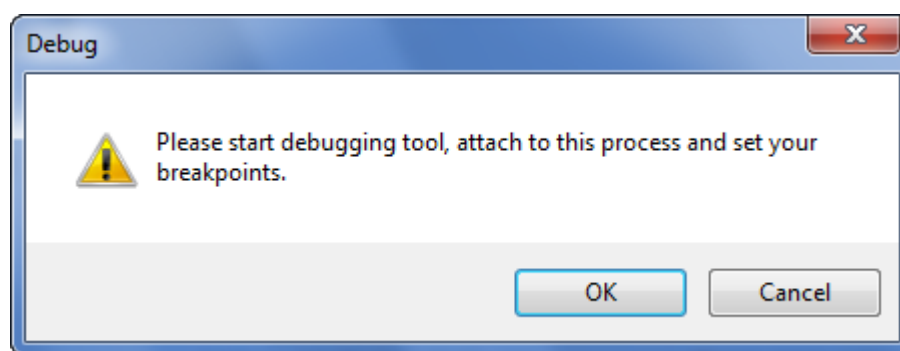

Figure 5.69: Script Host waiting for attaching debugger
- After the Script Host displayed the dialog shown by Fig. 5.69 start Visual Studio 2008 and execute menu item **Tools | Attach to Process...**
- Resume script execution by clicking the OK button in the Script Host dialog (Fig. 5.69).